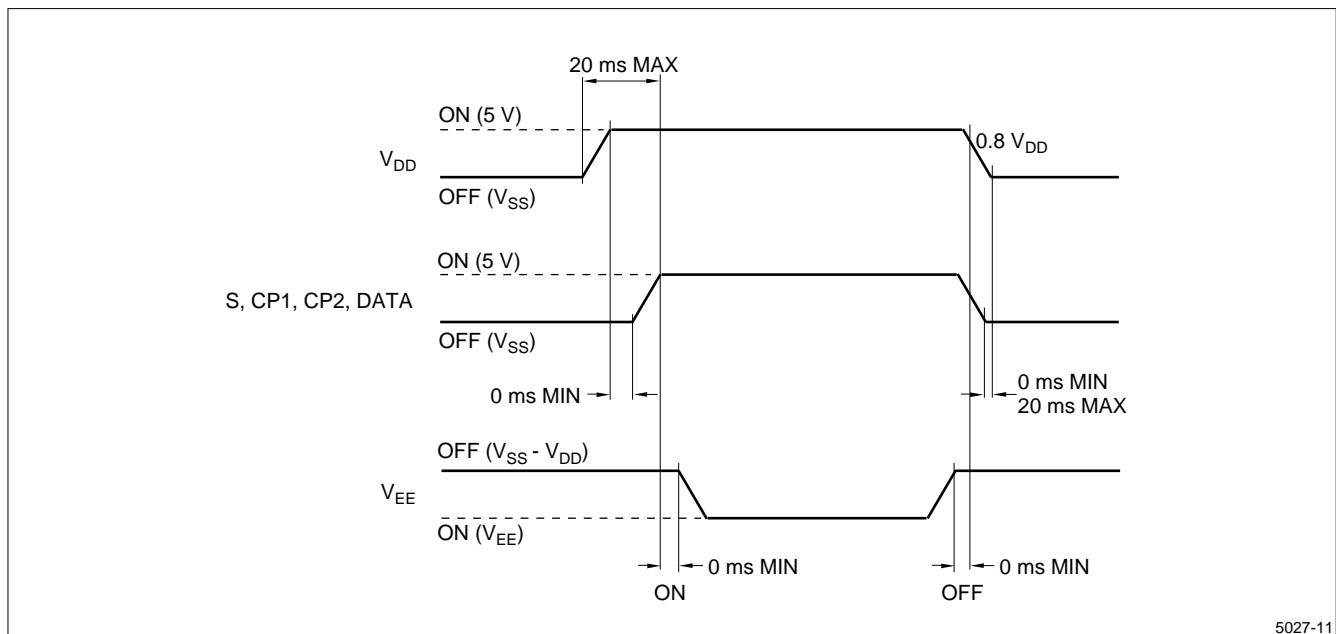

Figure 11. Power ON/OFF Sequence
- The response characteristics of photo-detector output are measured as shown in Figure 7, assuming that input signals are applied so as to select and deselect the dots to be measured, in the optical characteristics test method shown in Figure 11.
- The unit should be driven according to the specified ratings to avoid malfunction or permanent damage. DC voltage drive leads to rapid deterioration of LC, so ensure that the drive is alternating waveform by continuous application of the signal M. Avoid latch-up of driver LSIs and application of DC voltage to the LCD panel by following the ON/OFF sequence shown in Figure 11.